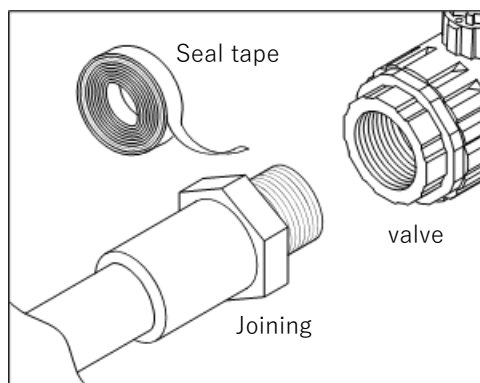

Figure 5.1-1
- 1) Wrap seal tape around the male thread of the fitting, leaving approximately 3 mm at the tip (**Figure 5.1-1**).